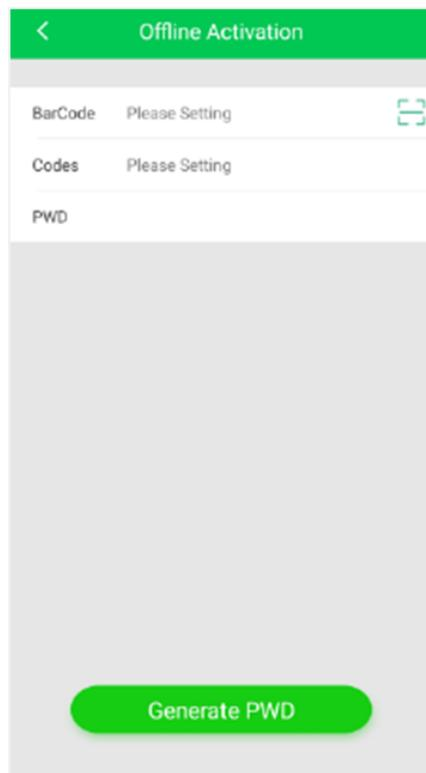

Figure 2-24 Generating a startup password
Step 4 Tap Offline Activation and the screen shown in Figure 2-24 is displayed